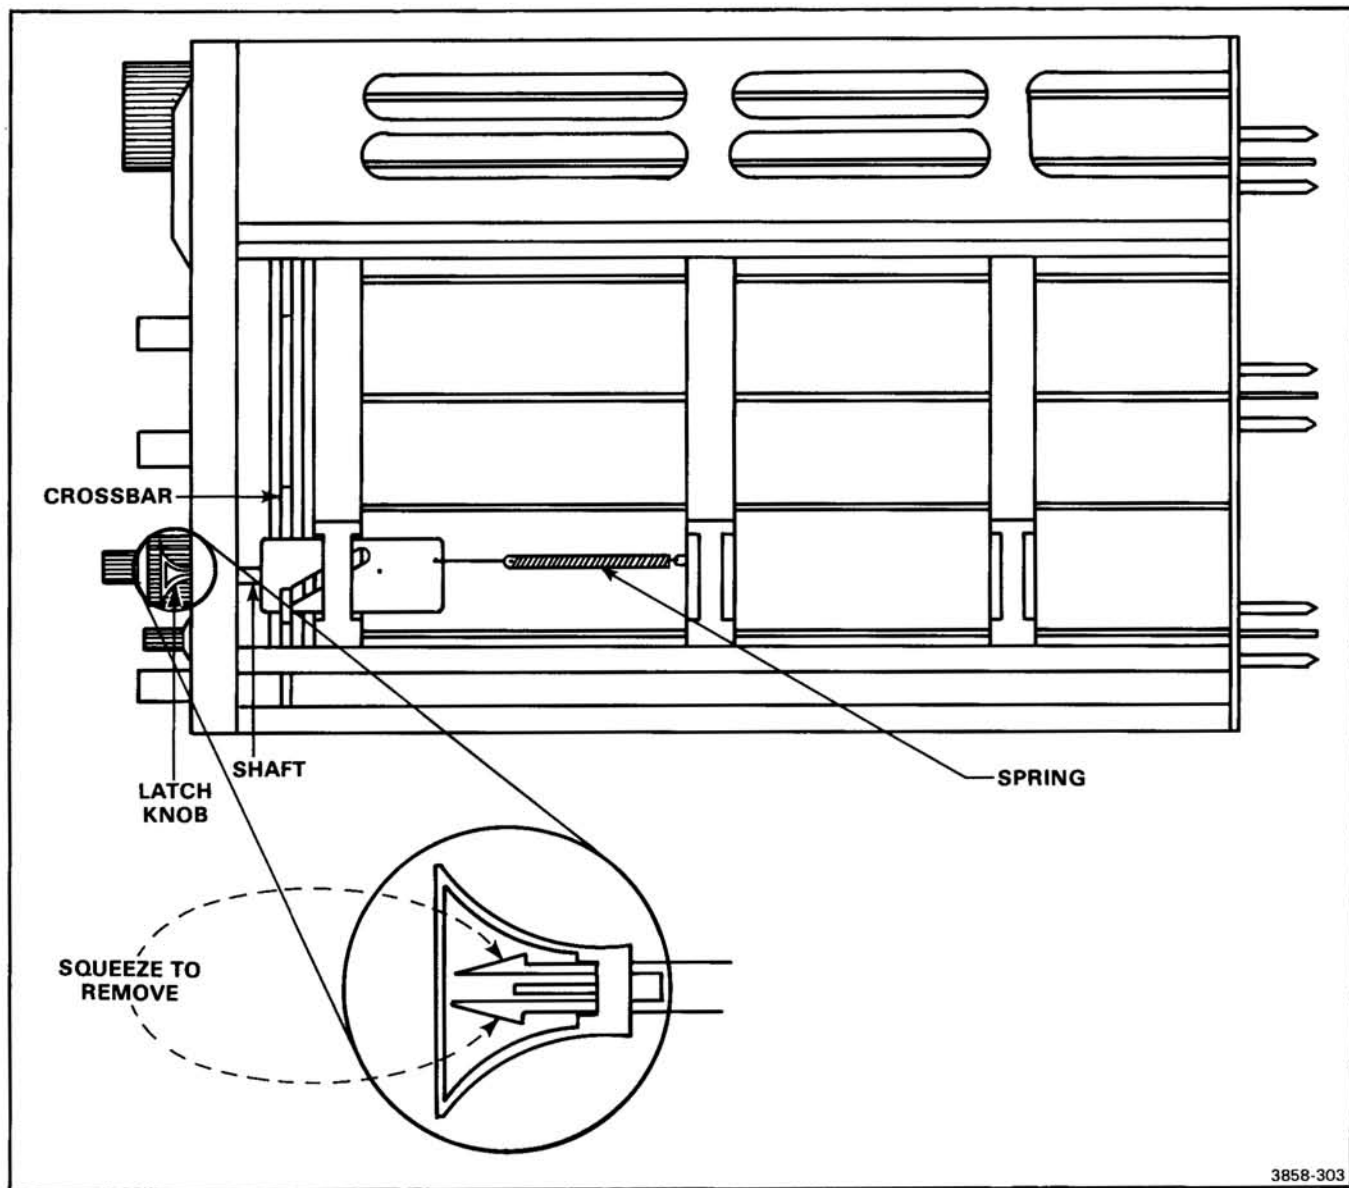

Figure 3-7. Latch assembly.
- Using needle-nose pliers, squeeze the latch fingers to release the latch knob. Lift the latch knob from the 7D20. See Figure 3-7.